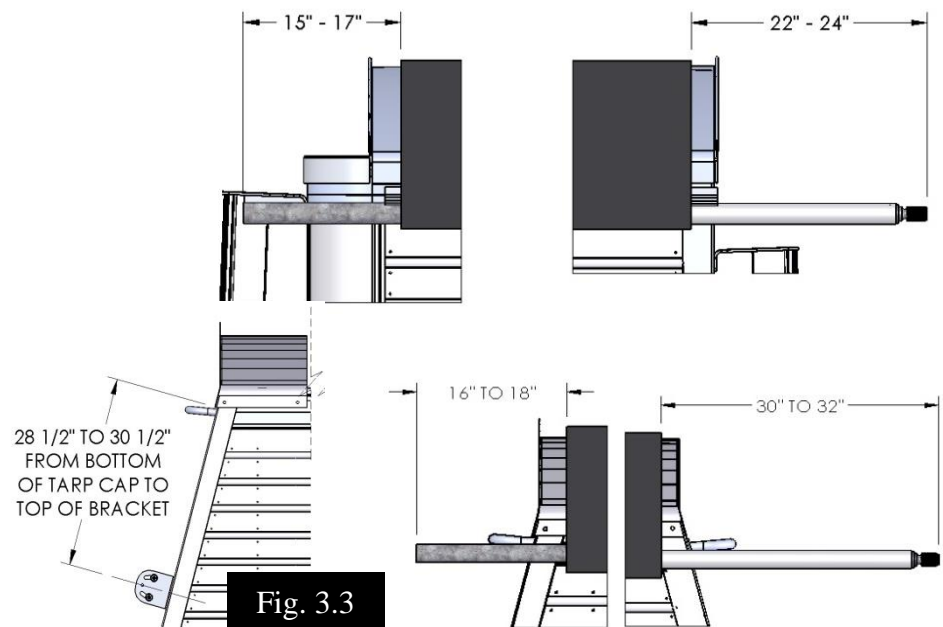

Fig. 3.3
2. For slant nose trailers measure approximately 29 1/2" from the bottom of the tarp cap. Refer to the figure 3.3.